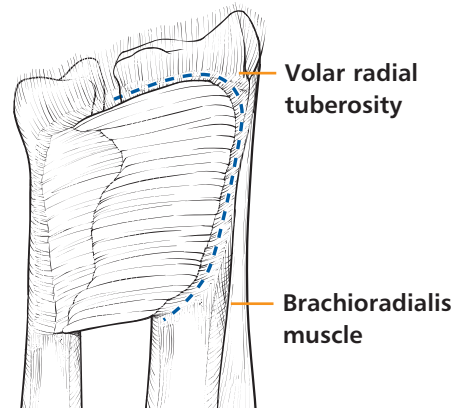

Fig. 5
**TIP:** Preserving 1-2mm of fibrous tissue radially may facilitate repair of the PQ at the end of the surgery (Fig. 5).